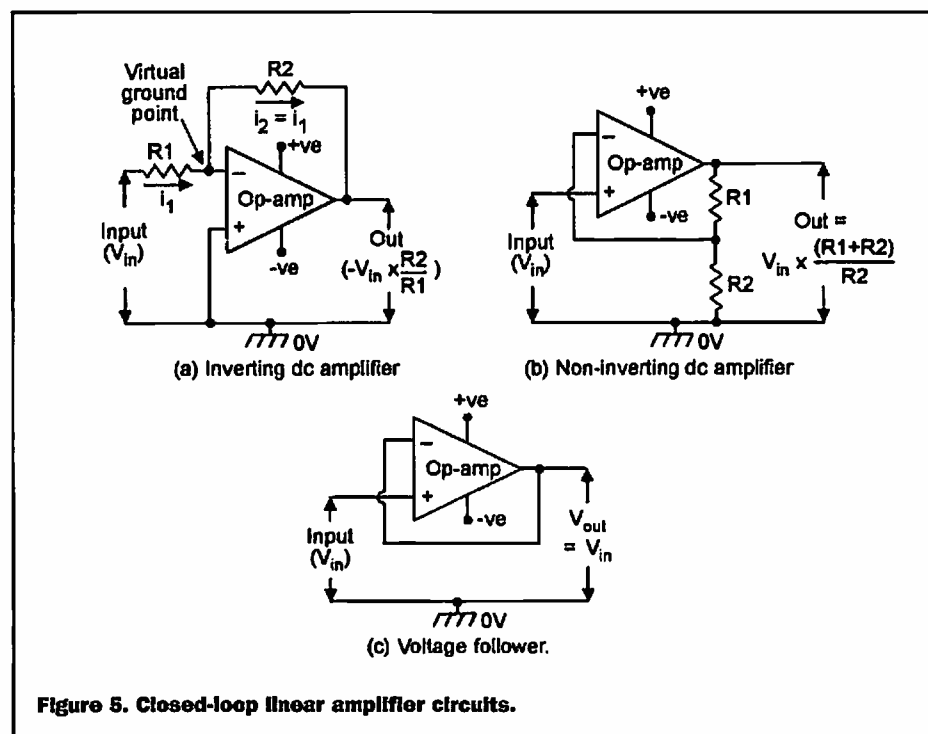

Figure 5. Closed-loop linear amplifier circuits.
Figure 5(b) shows how to connect the op-amp as a fixed-gain non-inverting amplifier. In this case the voltage gain equals $(R1+R2)/R2$, and the input impedance approximates $(A_O/A)Z_{in}$, where Z_{in} is the
open-loop input impedance of the op-amp. The above circuit can be made to function as a precision voltage follower by connecting it as a unity-gain non-inverting amplifier, as shown in Figure 5(c), where the op-amp operates with 100% negative feedback. In this case the input and output signal voltages are identical, but the input impedance of the circuit is very high, approximating $A_O \times Z_{in}$.
The basic op-amp circuits of Figures 5(a) to 5(c) are shown as dc amplifiers, but can readily be adapted for ac use by ac-coupling their inputs. Op-amps also have many applications other than as simple linear amplifiers. They can be made to function as precision phase splitters, as adders or subtractors, as active filters or selective amplifiers, and as oscillators or multivibrators, etc. Some of these
The most useful way of using an op-amp as a linear amplifier is to connect it in the closed-loop mode, with negative feedback applied from the output to the input, as shown in the basic dc-coupled circuits of Figure 5. This technique enables the overall gain of each circuit to be precisely controlled by the values of the external feedback components, almost irrespective of the op-amp characteristics (provided that the open-loop gain, A_O , is large relative to the closed-loop gain, A).
Figure 5(a) shows how to wire the op-amp as a fixed-gain inverting dc amplifier. Here, the gain (A) of the circuit is dictated by the ratios of R1 and R2 and equals $R2/R1$, and the input impedance of the circuit equals the R1 value; the circuit can thus easily be designed to give any desired values of gain and input impedance.
Note in Figure 5(a) that although R1 and R2 control the gain of the complete circuit, they have no effect on the parameters of